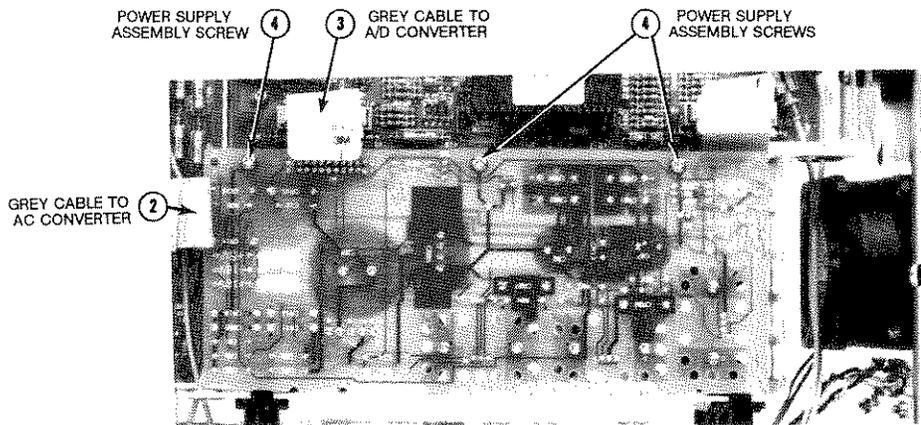

Figure 3-13. Inguard Power Supply Assembly Removal/Installation
4. Refer to Figure 3-13 for the rest of this procedure.
2. Refer to Figure 3-13. Line up the Inguard Power Supply assembly with the slots in the chassis. Then push the board in.